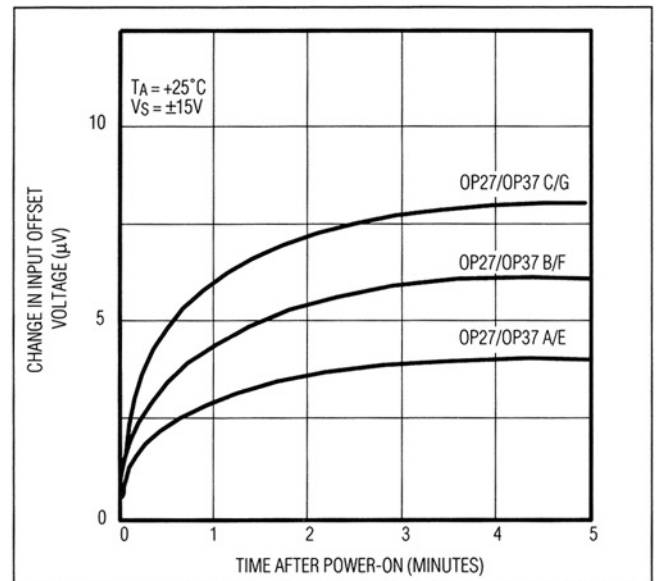

Figure 5. Warm-Up Offset Voltage Drift
1. The device must warm up for at least five minutes. Figure 5 shows how V_{OS} typically increases 4 μ V with increases in chip temperature after power-up. In the 10sec measurement interval, temperature-induced effects can exceed 10nV.